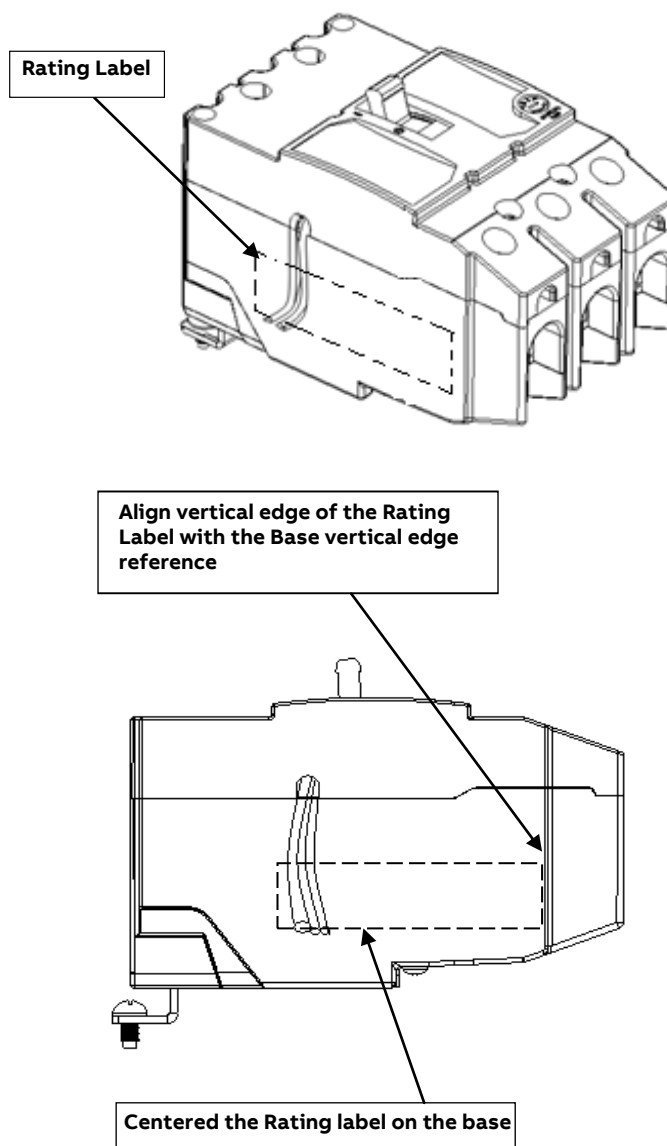

Figure 13.
1. Paste the Rating Label on the Base at the location shown in the Figure 13.